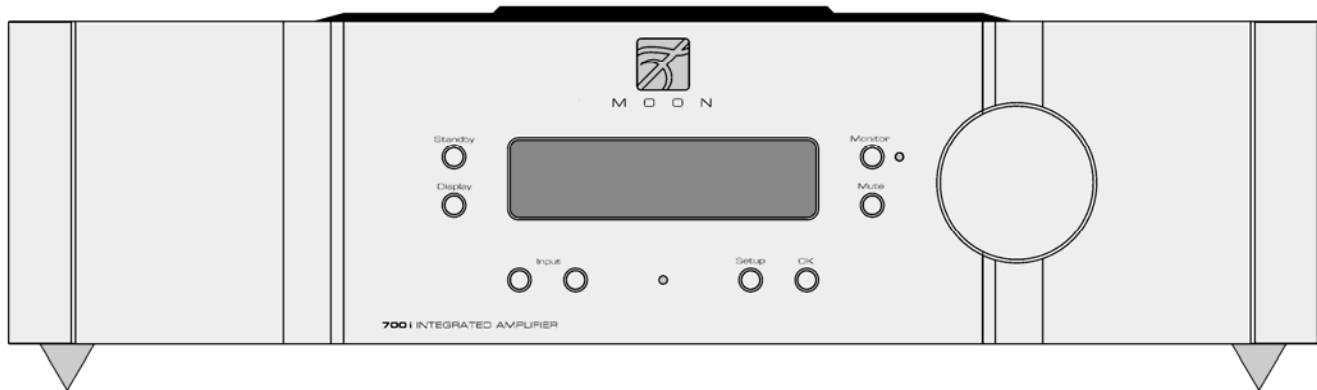

Figure 1: Front panel of MOON 700i dual-mono Integrated Amplifier
The front panel will look similar to Figure 1 (above). The large display window normally indicates the current volume level and, whenever you change the input, it will briefly show the selected input label. On each side of the display window, are two (2) buttons. On the right side is a large rotary volume control. As well, there are four buttons (4) directly below the window, for a total of eight (8) which are all described in detail below: